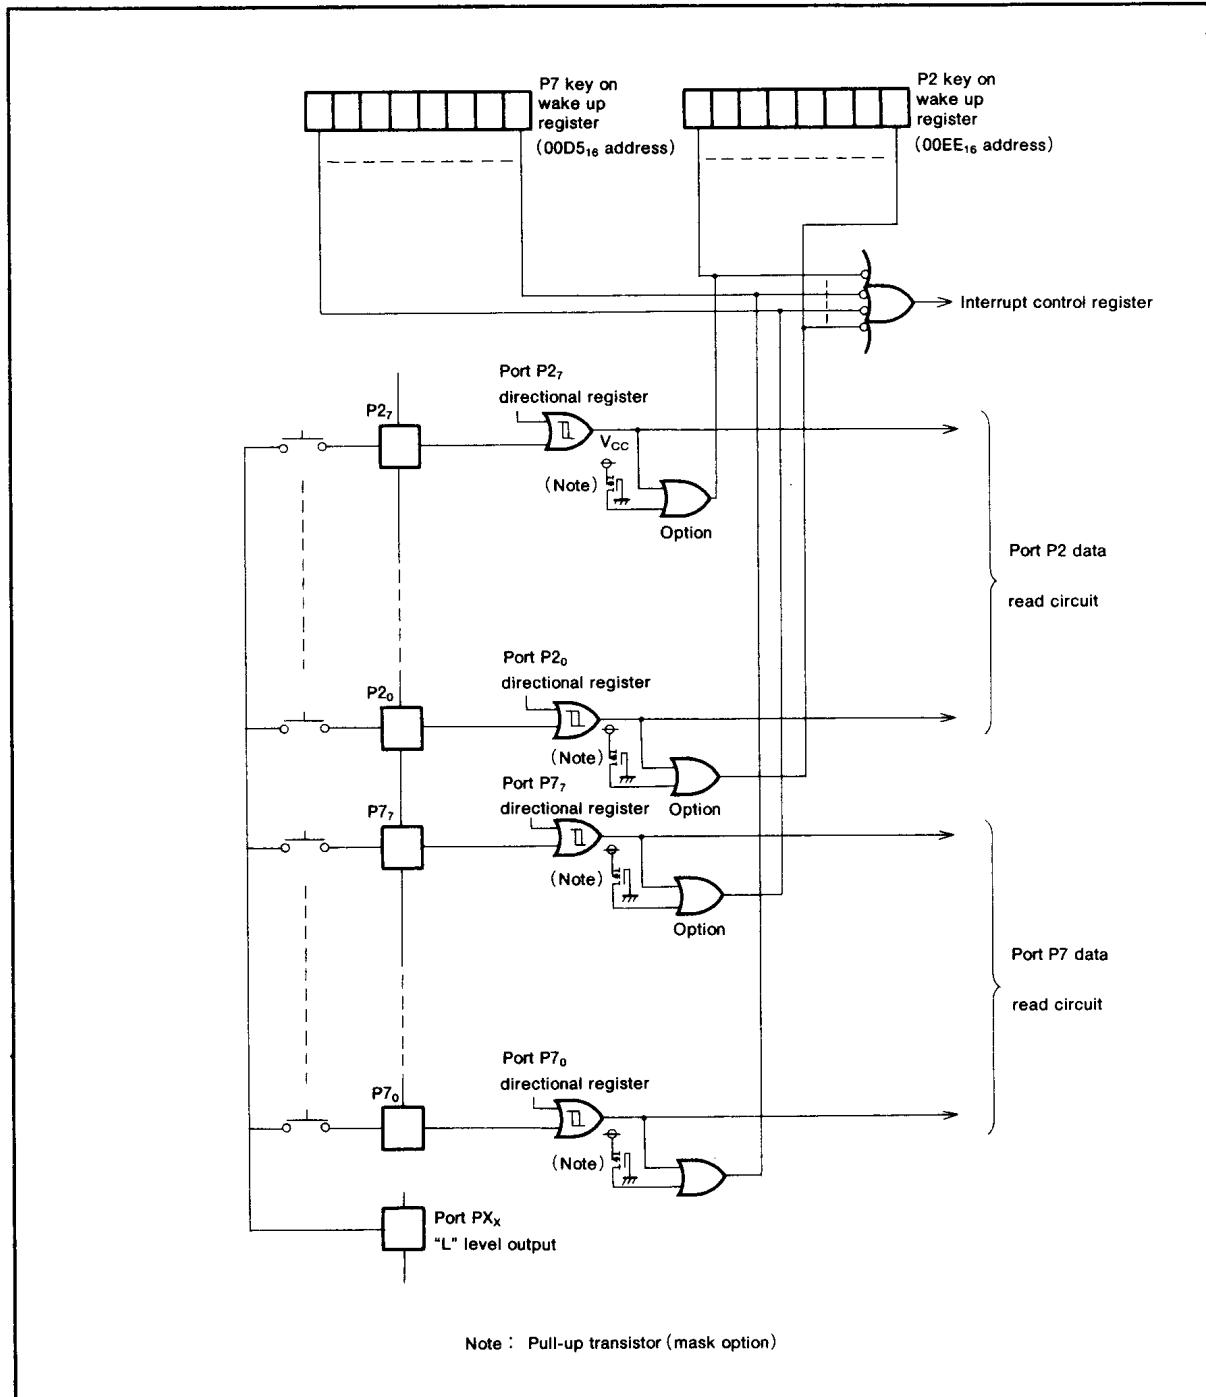

Fig. 16 Block diagram of port P2, P7 and example of wired at used key on wake up
As shown in Figure 16, if the key matrix of active "L" to input port P2, P7 are constructed, the microcomputer is returned to normal operating state by the key push. Refer to the section of interrupt how to use the key on wake up function. In order to enter the power down state generated by the STP or WIT instruction at the interrupt disable flag (I) is "0" and IC2 is "1", the input designated as key on wake up by option in port P2, P7 must be all "H".